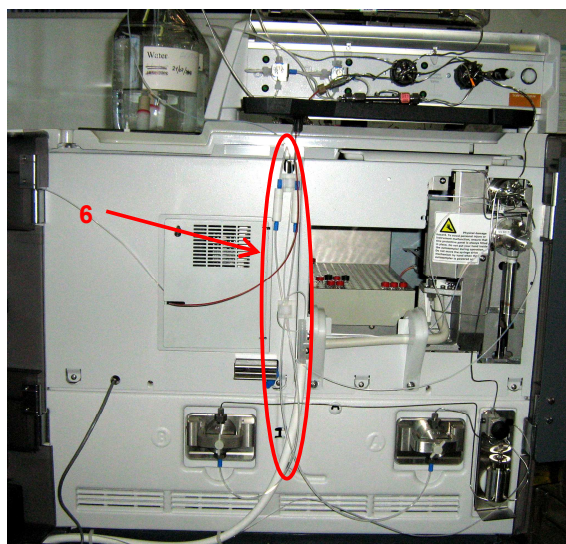

Figure 7: Clips on the front panels of the system
7. Clip the solvent lines behind the clips on the face panel (6) between the pump and the SUM Figure 7. This finishes the de-bubbler installation.